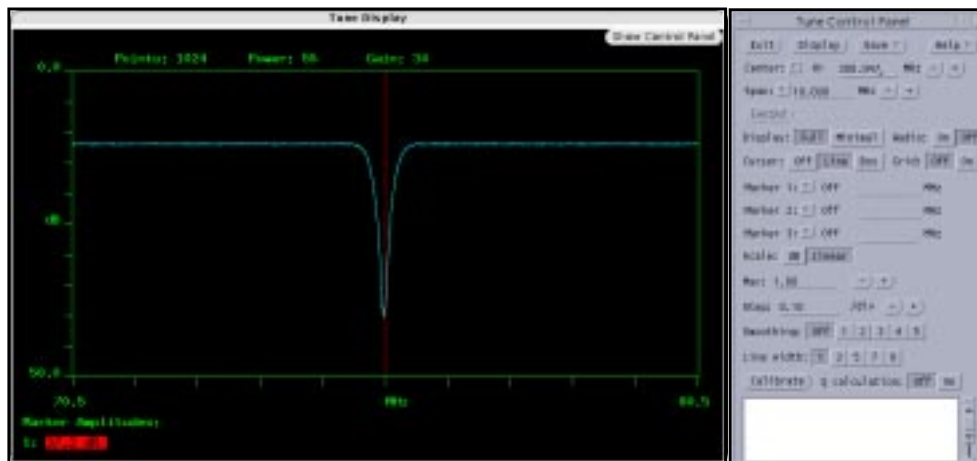

Figure 7. Tune Display Window and Tune Control Panel (qtune Program)
This section describes how to use the graphical probe tuning program (shown in Figure 7) for interactive NMR probe tuning on *UNITYINOVA* and *UNITYplus* systems, and on *MERCURY-VX* systems equipped with the graphical tuning upgrade.
The Tune Display and Tune Control windows open, similar to Figure 7. The Tune Display is centered on the resonant frequency of the current experiment (*sfrq*).
- Full display shows the network-analyzer-like graph, as shown in Figure 7.